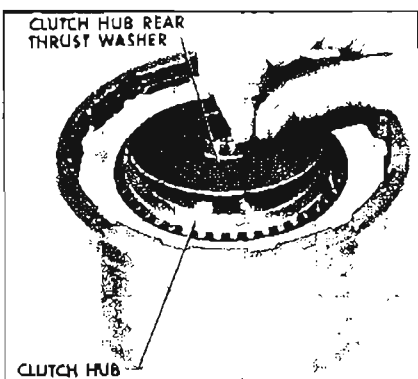

Figure 5-211
3. Remove clutch hub rear thrust washer. See Figure 5-211.